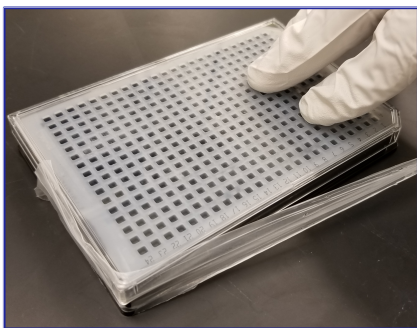

Figure 1
10. Remove and discard the external wrapping while keeping the plate top side up (Figure 1).